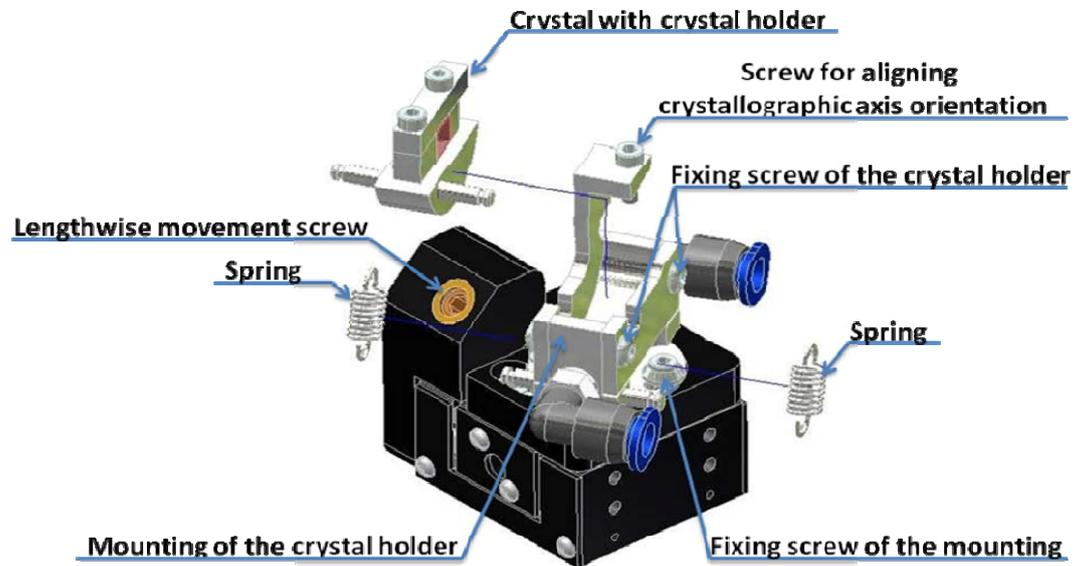

Fig. 7 Cristal mount
10. Remove the crystal with the crystal holder **Fig. 7**
- Align the crystal for a dark field on a target, rotating the crystal holder around the optical axis using the screw for aligning crystallographic axis orientation (see **Fig. 7**).